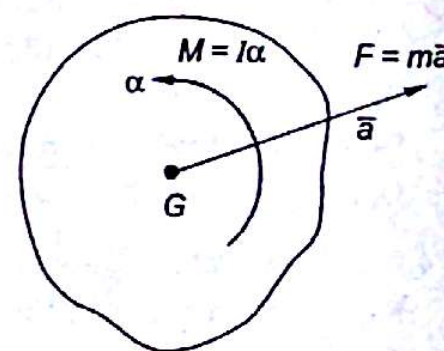

Fig. 17.9
- External forces acting on a body under general plane motion are equivalent to a force and or a couple acting at mass centre G of the body under motion of translation and rotation as shown in the Fig. 17.9.